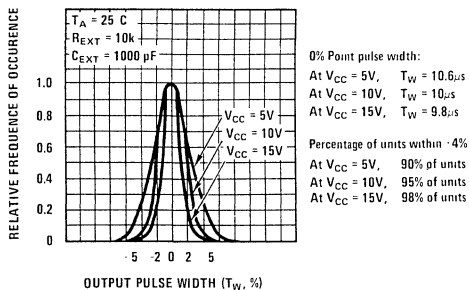
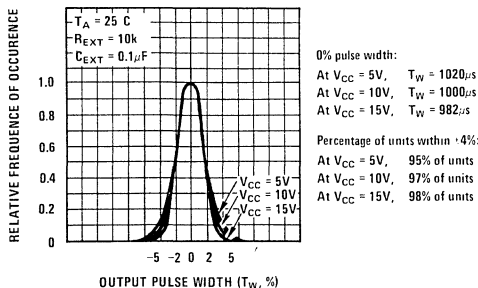
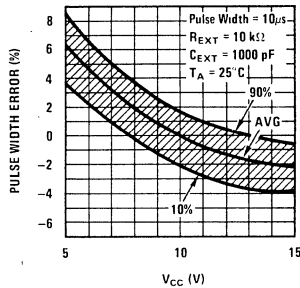

FIGURE 3. Typical Pulse Width Distribution for 10 $\mu$ s Pulse.
FIGURE 4. Typical Pulse Width Distribution for 1000 $\mu$ s Pulse.
FIGURE 5. Typical Percentage Deviation from  $V_{CC} = 10V$  Value vs  $V_{CC}$  (PW =  $10\mu s$ ).
*Figures 3 and 4* show the resulting distributions of pulse widths at 25 $^{\circ}$ C for various power supply voltages. *Because propagation delays, at the same power supply voltage, are the same independent of pulse width, the shorter the pulse width the more the accuracy is*
affected by propagation delay. Figures 3 and 4 clearly show this effect. As pointed out in application note AN-90, 54C/74C Family Characteristics, propagation delay is a function of  $V_{CC}$ . Figure 3, (Pulse Width =  $10\mu s$ ) shows much greater variation with  $V_{CC}$  than Figure 4 (Pulse Width =  $1000\mu s$ ). This same information is shown in Figures 5 and 6 in a different format. In